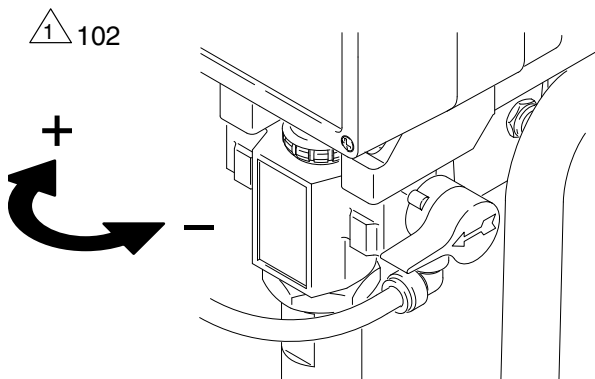

Fig. 10
1. **Check the packing nut/wet-cup daily (102).** Relieve pressure first. Keep the wet-cup 1/3 full of TSL at all times to help prevent fluid buildup on the piston rod and premature wear of packings.
2. **Tighten the packing nut/wet-cup (102) just enough to stop leakage.** Over-tightening causes binding and excessive packing wear. Use a round punch or brass rod and a light hammer to adjust the nut. See Fig.10.